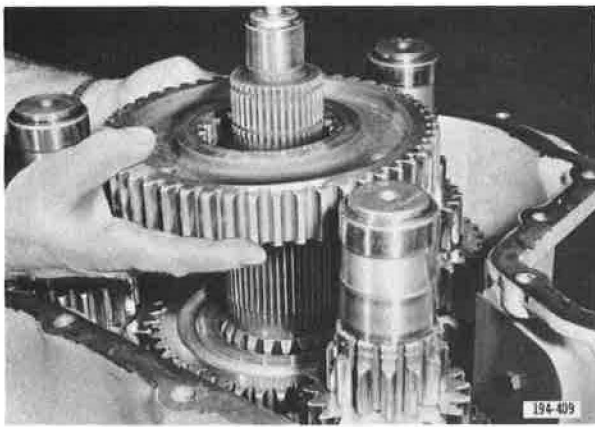

Figure 5-961. Installing Gear
22. Install second speed gear (beveled side of clutch teeth toward front of transmission), and engage with countershaft second speed gears. See **Figure 5-961**.